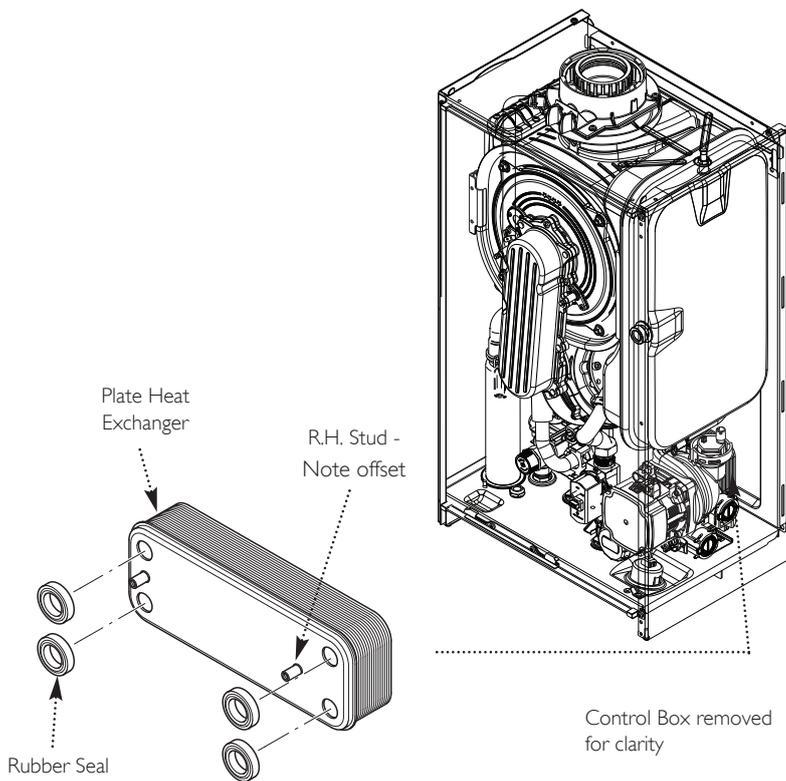

Fig. 62
13.14 Plate Heat Exchanger (Fig. 62)
7. When fitting the new heat exchanger note that the right hand location stud is offset towards the centre (Fig. 62).